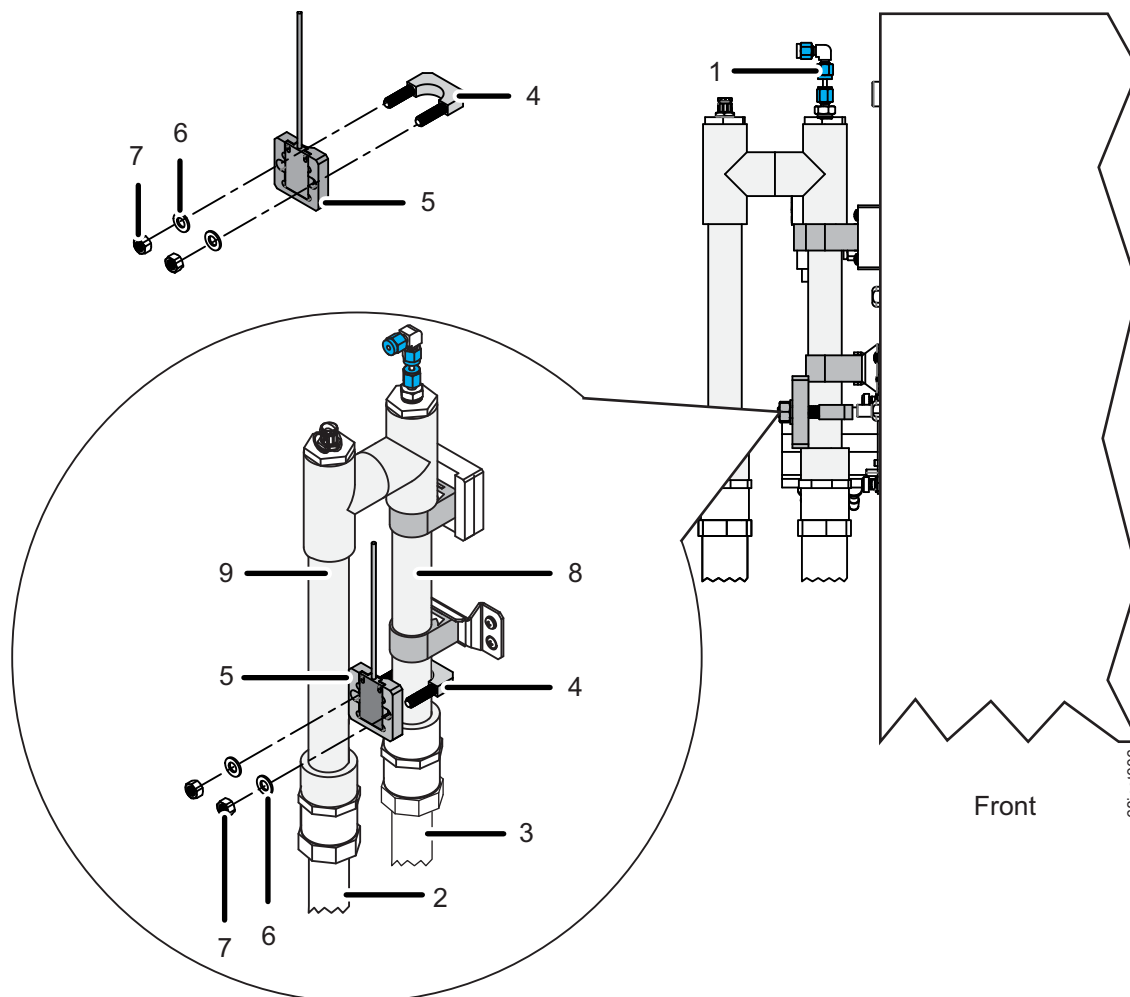

Figure 25: Velocity Mode — Fail Safe Installation
8. Remove the U-bolt (4) from the sensor (5) and position the U-bolt (4) over and near the end of the pipe with the sipper tube (8). See Figure 25: Velocity Mode — Fail Safe Installation on page 96.